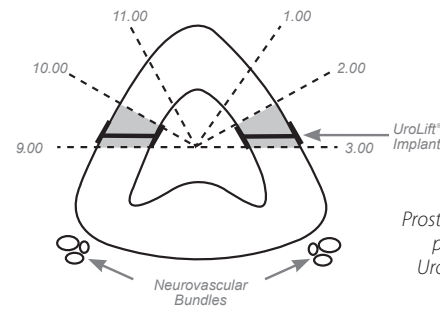

Figure 3
2.6 To avoid external prostatic structures (e.g. neurovascular bundle), UroLift Implants should be implanted in the anterior aspect of the prostate, in between the 2-3 and 9-10 o'clock positions (**Figure 3**).
2.7 Pre-determine treatment site by orienting the delivery device tip in a lateral direction, typically either 2-3 o'clock or 9-10 o'clock, (**Figure 3**) in the bladder then slowly moving the device distally to visualise the prostatic fossa from the bladder neck to the verumontanum.